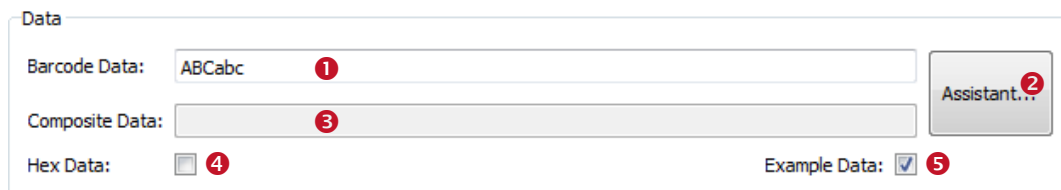

Figure 7: Data Section
If this option is selected (see Figure 7, ④) the barcode data is treated as hexadecimal data. This property applies to the barcode data field and to the composite data.
If the option “*Example Data*” is selected (see Figure 7, ⑤), **Barcode Studio** provides a valid example data string for the currently selected barcode type. The data is adapted automatically if you change the symbology.